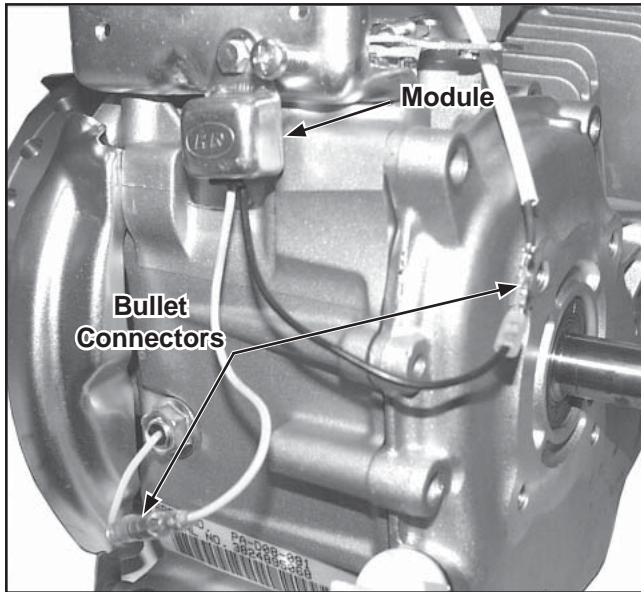

Figure 9-25. Disconnect Oil Sentry™ System.
1. Disconnect the wiring harness bullet connectors for the Oil Sentry™ float switch and module. Remove the mounting screw securing the module to the fuel tank bracket. See Figure 9-25.